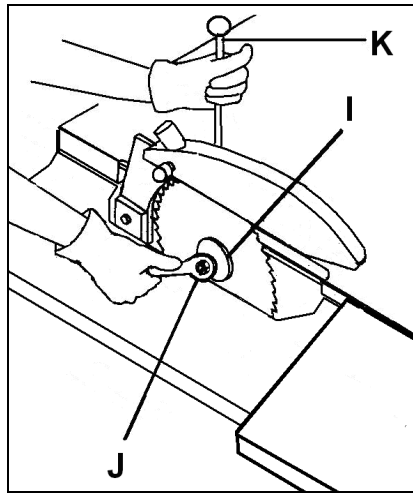

Fig 19
Loosen the arbor nut (J, Fig 19) while stopping the arbor against rotation with the locking pin (K).